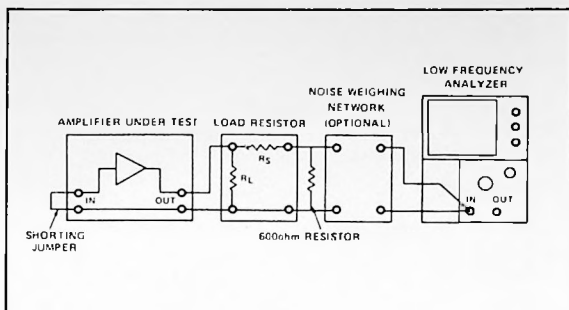
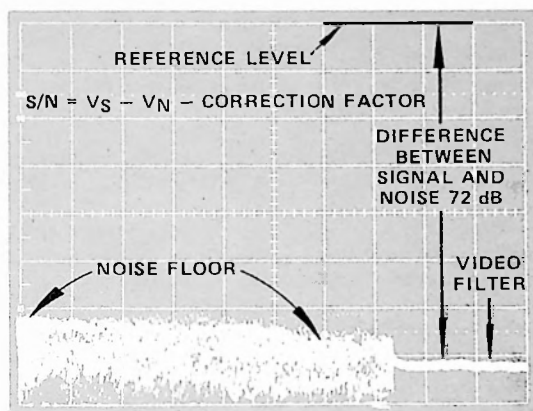

Figure 35 Equipment Connections to Measure S/N
Figure 36 Measuring the Noise Floor
1. Set up the equipment as shown in Figure 35. Apply a 1000 Hz tone from the audio signal generator to the amplifier input. Adjust the signal level so the amplifier is driven at rated power output (volume control maximum) as indicated by the 2 dB/DIV display of the spectrum analyzer.
3. Switch to the 10 dB/DIV display mode and note the amplitude of the 1000 Hz tone. This will be the Signal Reference Level (VS).
4. Switch the 1000 Hz tone off, install a shorting jumper and observe the noise floor on the display. Use the analyzer VIDEO FILTER to average the noise so the amplitude of the noise floor (VN) can be measured as shown in Figure 36.